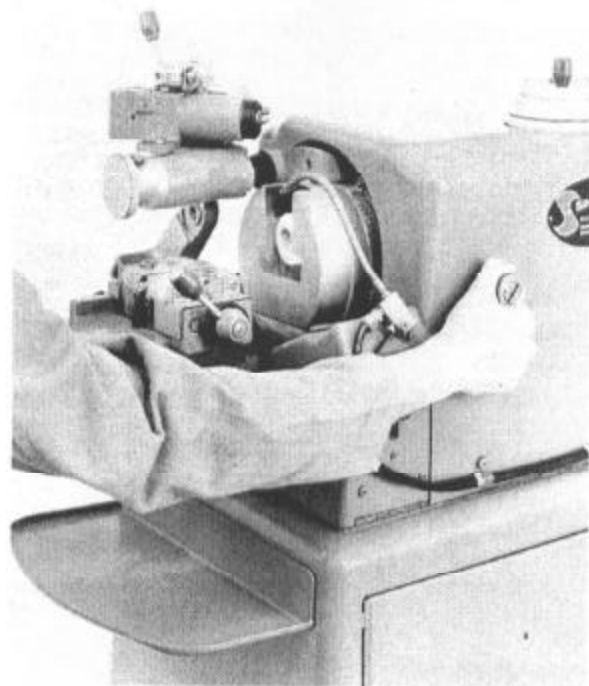

Figure 9.
4. Push in the spindle gyration stop control knob and turn it clockwise. This automatically stops spindle gyration. (See Figure 9.)